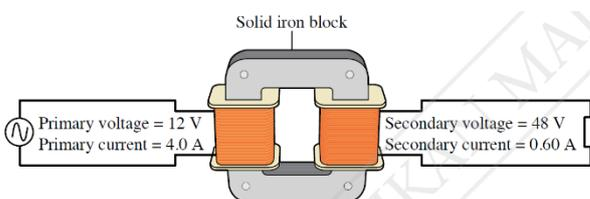

Figure 7
8. A pupil investigated the operation of a transformer and gathered data as shown in Figure 7. Calculate the efficiency of the transformer and suggest improvements to the design of the transformer to increase its efficiency. 🧠